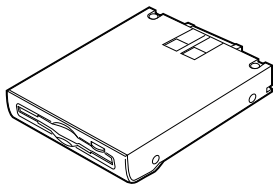

Figure 1-4 Floppy Disk Drive
- Modular 3.5" floppy disk drive (located in the accessories box). (Figure 1-4.)